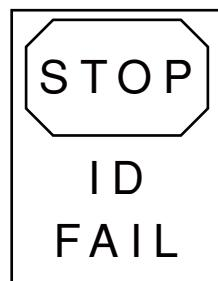

Fig.3
- (2) When the laser scanner detects the approaching aircraft, the display screen will indicate the aircraft type, a "T" bar, and a lead-in upward arrow in yellow.
- (3) At least until the approaching aircraft arrives at a point 15 meters before the stopping position, the system will identify the aircraft type and will compare with the previously input aircraft type. If these data match, the system will continue its operation. If they do not match, the display screen will indicate "STOP" with a red border, and "ID FAIL" simultaneously. (Fig.3)